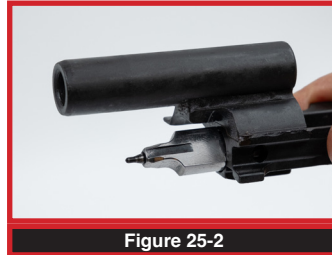

Figure 25-2
13. Insert the locking piece with firing pin and spring into the bolt carrier and orient as shown (Figure 25-2).